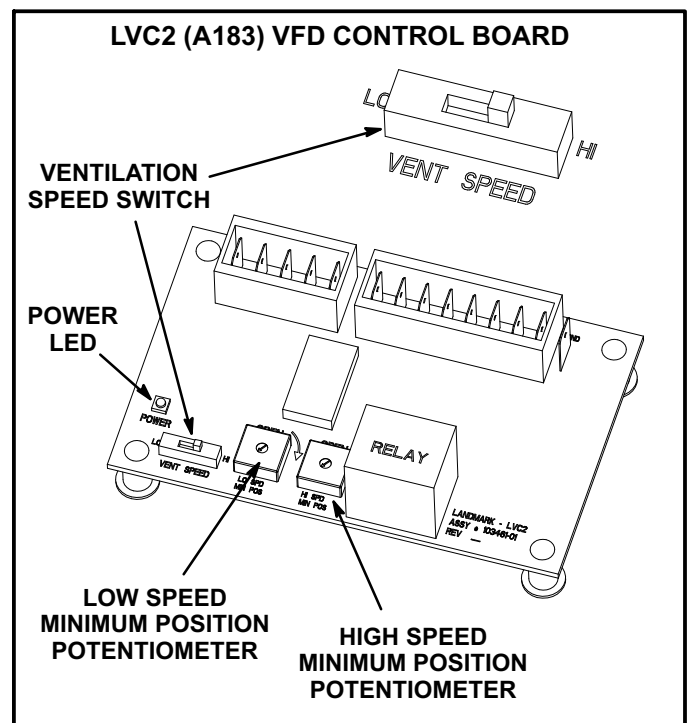

FIGURE 30
To save energy during ventilation, the blower speed can be set to low. This is accomplished by changing the ventilation speed switch on the VFD control board to "LO". See figure 30.
To maintain required minimum ventilation air volumes when the unit is in the occupied mode, two minimum damper positions must be set. A high and a low speed potentiometer are provided on the VFD control board to adjust minimum damper position. See figure 30.
- 5- Check the power LED on the board. See figure 30.